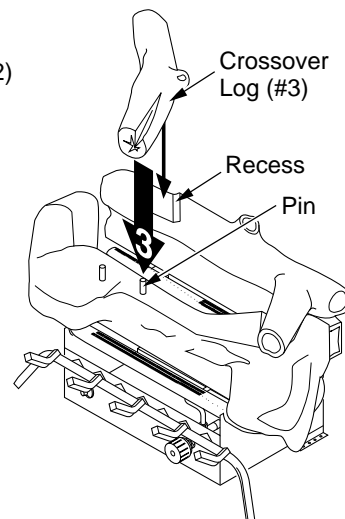

Figure 24 - Installing Crossover Log (#3)
3. Place crossover log (#3) onto the pin (right) on middle log (#1) and into the recess of the back log (#2). See Figure 24.